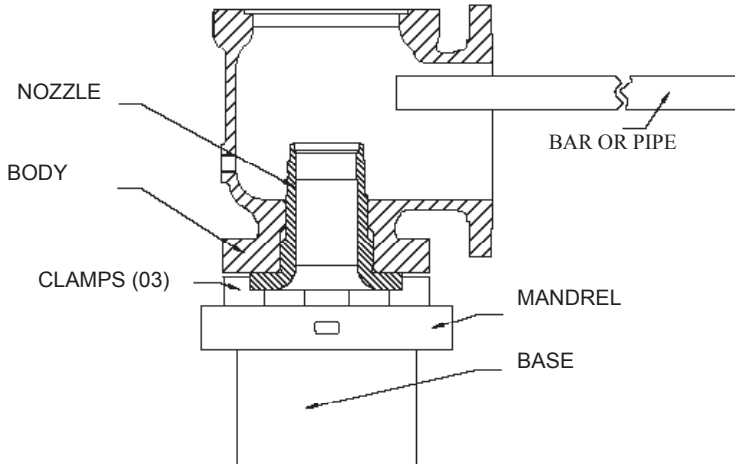

FIG. 07
Remove the nozzle (06) from the body (01). The nozzle is mounted to the body by right-hand threads. Using a 3 or 4 clamps mandrel, hold the nozzle in the mandrel and loosen it from the body using a bar or pipe (Figure 07) and rotating the body in an counterclockwise direction. Be careful when using the bar or pipe in the outlet connection to ensure that the nozzle is not damaged during operation. Where the nozzle is stuck in the body, removal may be facilitated by heating the body externally in the threaded area while a cooling agent is applied to the inside of the nozzle. Remove the nozzle (07).